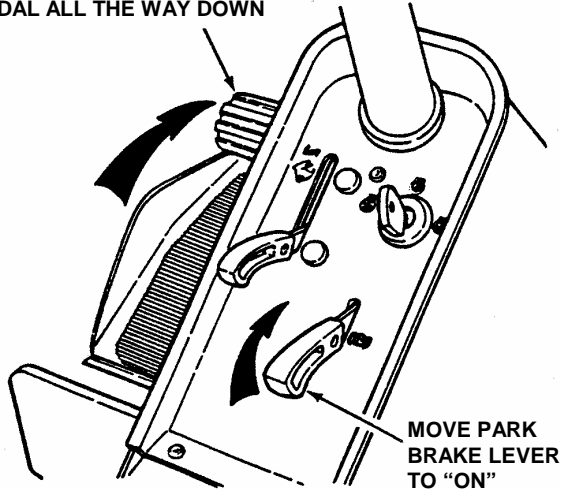

FIGURE 4.6
4. Depress clutch/brake pedal all the way down. Move and hold the park brake lever in the "ON" position and release the clutch/brake pedal to lock the park brake. See Figure 4.6.